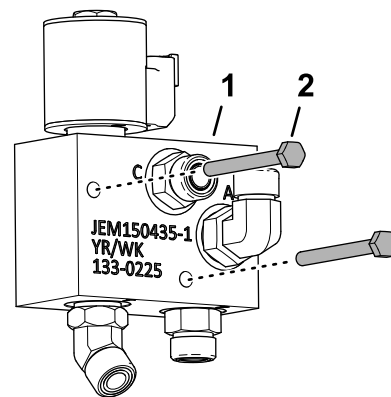

Figure 15
1. Assemble the 2 bolts (1/4 x 2-1/2 inches) through the body of the low-flow valve as shown in Figure 15.